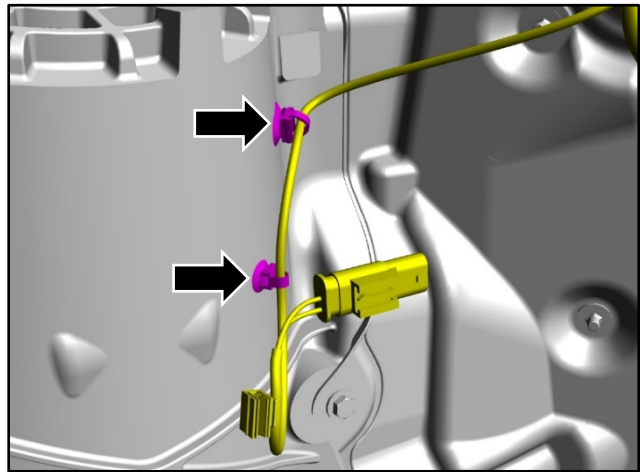

Figure 27
16. Install the two clips for the wiring harness (refer to Figure 27).